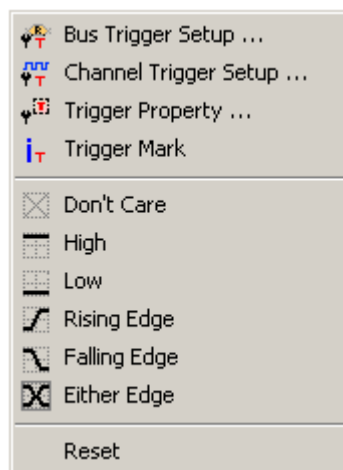

Fig 4-15 -Trigger Menu
Step 1. Click  icon or click Bus Trigger Setup on the Trigger menu to open the Bus Trigger dialog box.. The Trigger menu will appear as shown in Fig 4-15.